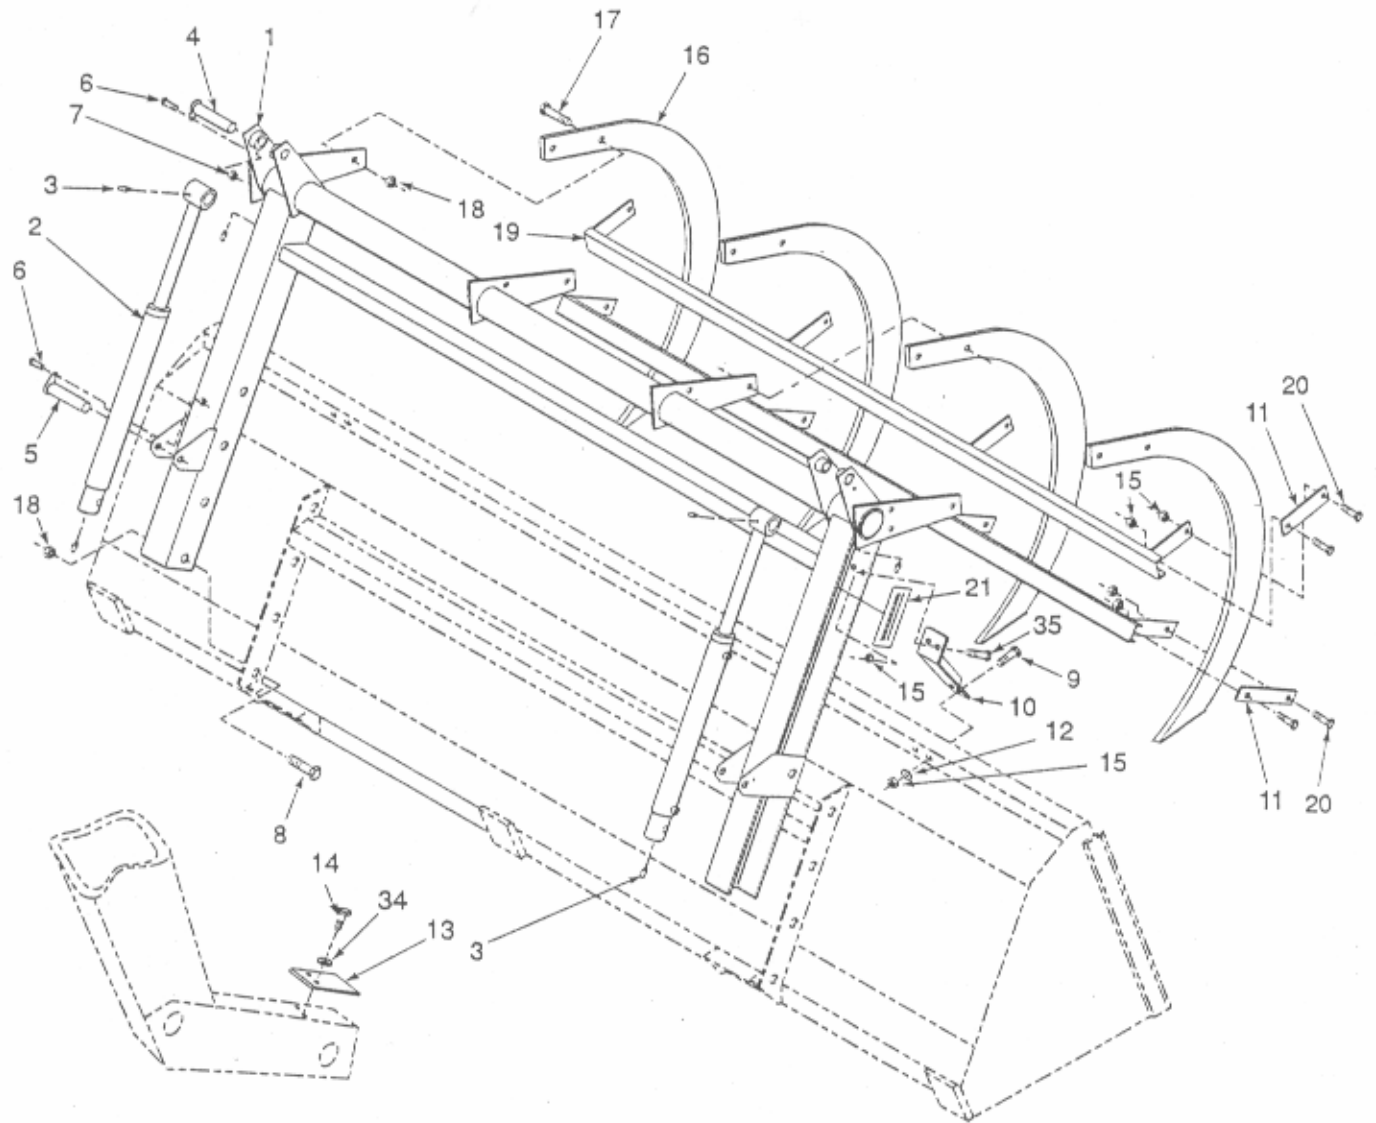

Figure 1
**PARTS LIST - GRAPPLE FORK (Figures 1 & 2)**
## GRAPPLE FORK ASSEMBLY (Figure 1)